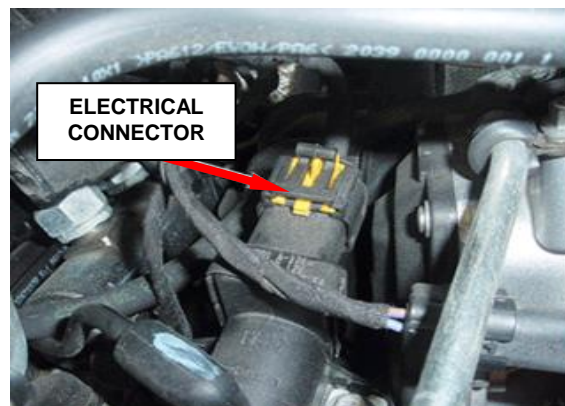

Figure 22 – EGR Vacuum Solenoid
31. Disconnect the EGR Vacuum Solenoid harness electrical connector (Figure 22).